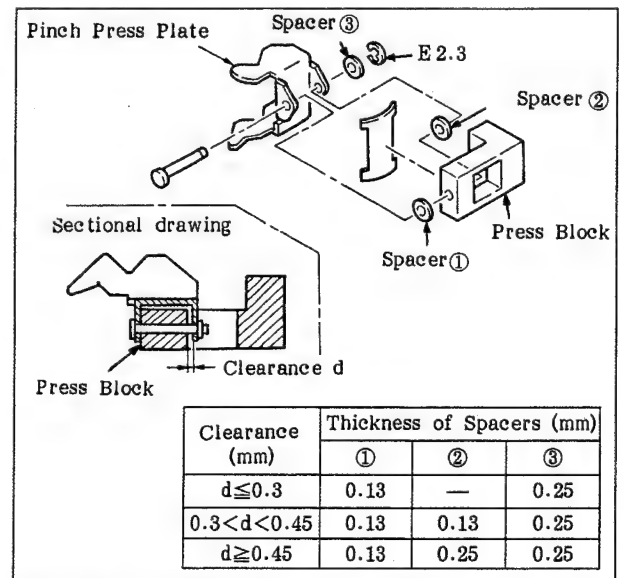

Fig. 6-108 Adjustment of the Position of the Pinch Press Plate
3. Measure clearance d with a thickness gauge when the pinch press plate is pushed against the press block without inserting a spacer between them as shown in the sectional drawing of Figure 6-108.